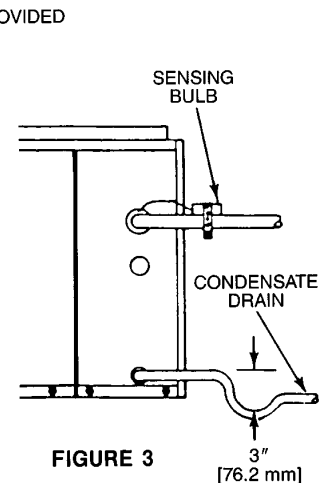

FIGURE 3
2. The expansion valve sensing bulb must be strapped securely to the top of the suction line on the outside of the coil cabinet. Both the bulb and suction line must be insulated. See figure 3.
3. The condensate drain connection is 3/4" [19 mm] NPT. A 3" [76.2 mm]: A trap with adequate pitch must be provided. See figure 3.